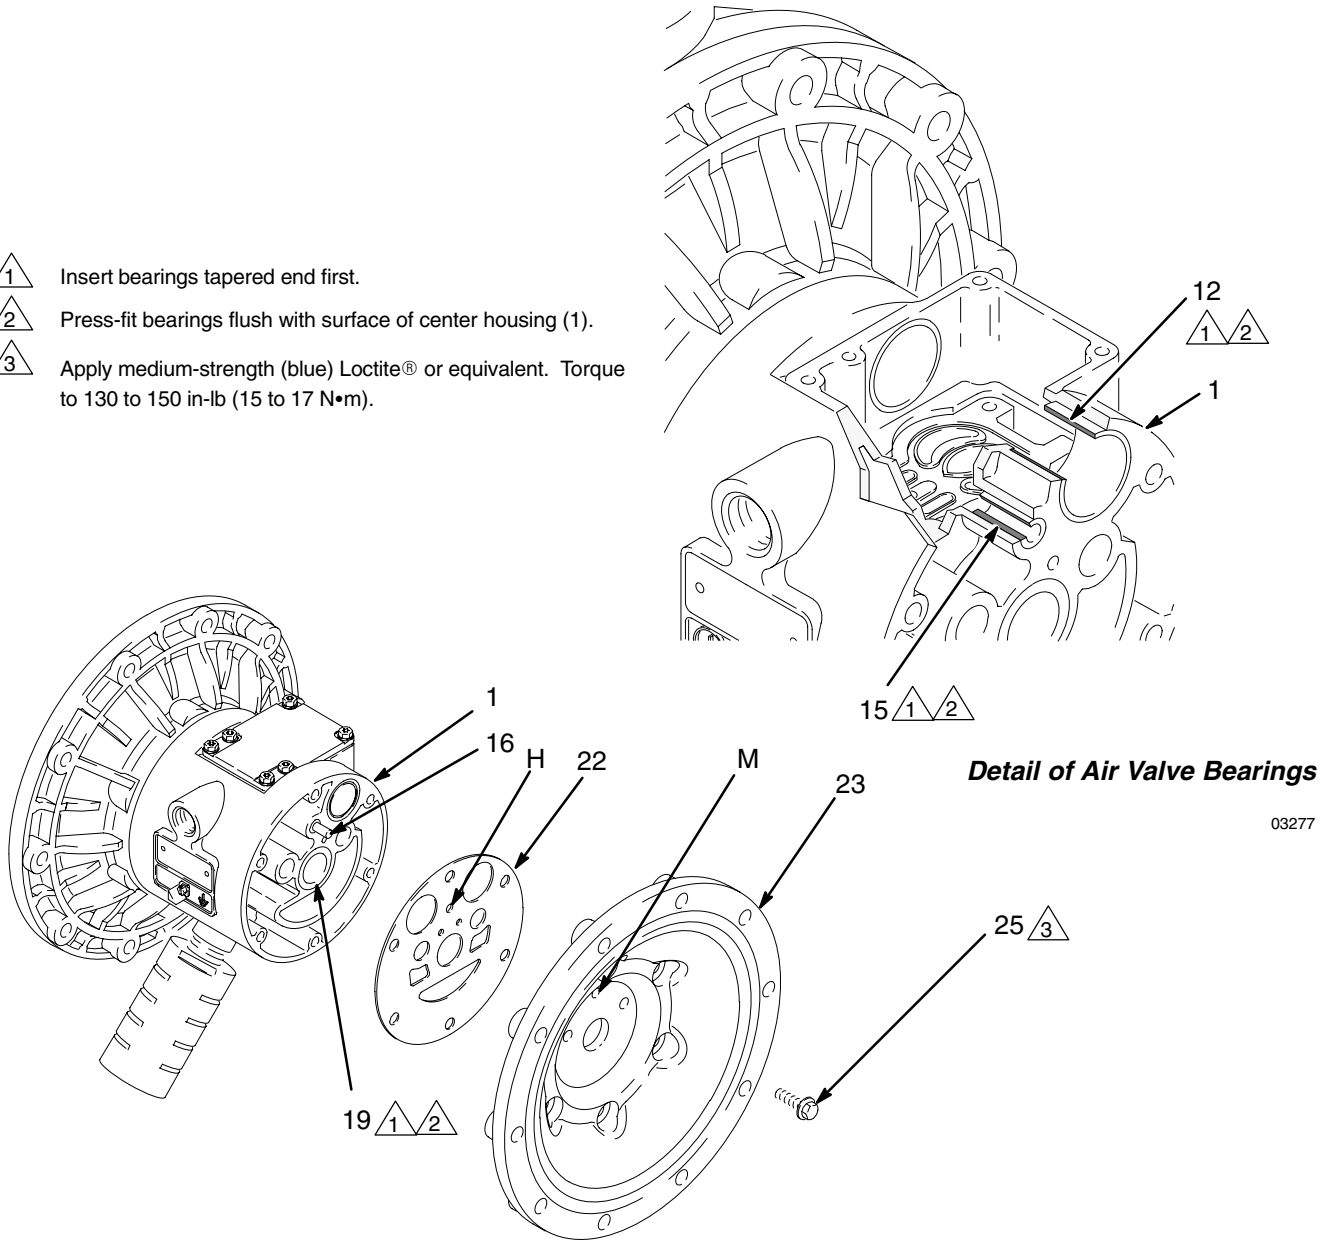

Fig. 14
- NOTE:** If you are removing only the diaphragm shaft bearing (19), skip step 4.
5. Using a 10 mm socket wrench, remove the screws (25) holding the air covers (23) to the center housing (1). See Fig. 14.
6. Remove the air cover gaskets (22). Always replace the gaskets with new ones.
7. Use a bearing puller to remove the diaphragm shaft bearings (19), air valve bearings (12) or pilot pin bearings (15). Do not remove undamaged bearings.
1. If removed, install the shaft u-cup packings (402\*) so the lips face **out** of the housing (1).
2. The bearings (19, 12, and 15) are tapered and can only be installed one way. Insert the bearings into the center housing (1), **tapered end first**. Using a press or a block and rubber mallet, press-fit the bearing so it is flush with the surface of the center housing.
4. Align the new air cover gasket (22) so the pilot pin (16) protruding from the center housing (1) fits through the proper hole (H) in the gasket.
5. Apply medium-strength (blue) Loctite® or equivalent to the threads of screws (25). Align the air cover (23) so the pilot pin (16) fits in the middle hole (M) of the three small holes near the center of the cover. Install the screws (25), handtight. See Fig. 14. Using a 10 mm socket wrench, torque the screws oppositely and evenly to 130 to 150 in-lb (15 to 17 N•m).